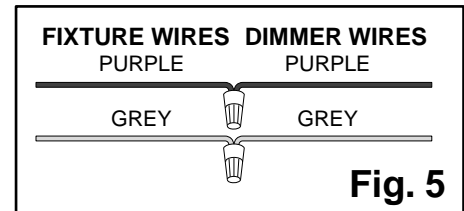

Fig. 5
13. Connect the **purple** and **grey fixture wires** to corresponding wires of the wall 0-10V **dimmer** (**Fig. 5**).